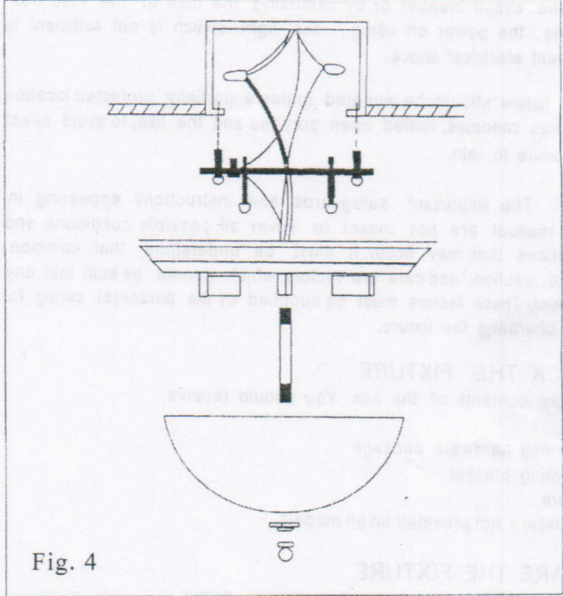
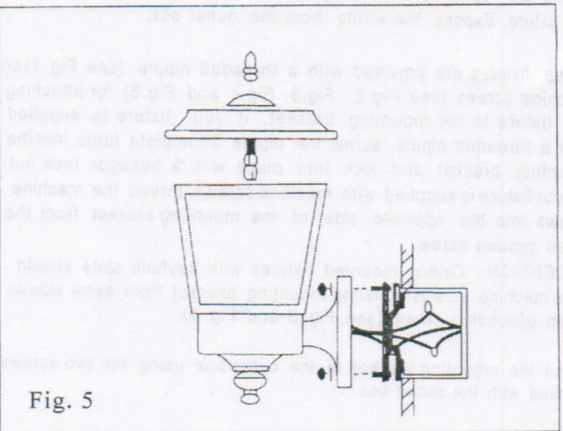

Fig. 4
Fig. 5
2. Some fixtures are provided with a threaded nipple (see Fig. 1) or machine screws (see Fig. 2, Fig. 3, Fig. 4 and Fig. 5) for attaching the fixture to the mounting bracket. If your fixture is supplied with a threaded nipple, screw the nipple 3 complete turns into the mounting bracket and lock into place with a hexagon lock nut. If your fixture is supplied with machine screws, thread the machine screws into the opposite side of the mounting bracket from the green ground screw.
**EXCEPTION:** Ceiling mounted fixtures with keyhole slots should have machine screws entering mounting bracket from same side as green grounding screw (see Fig. 3 and Fig. 4).